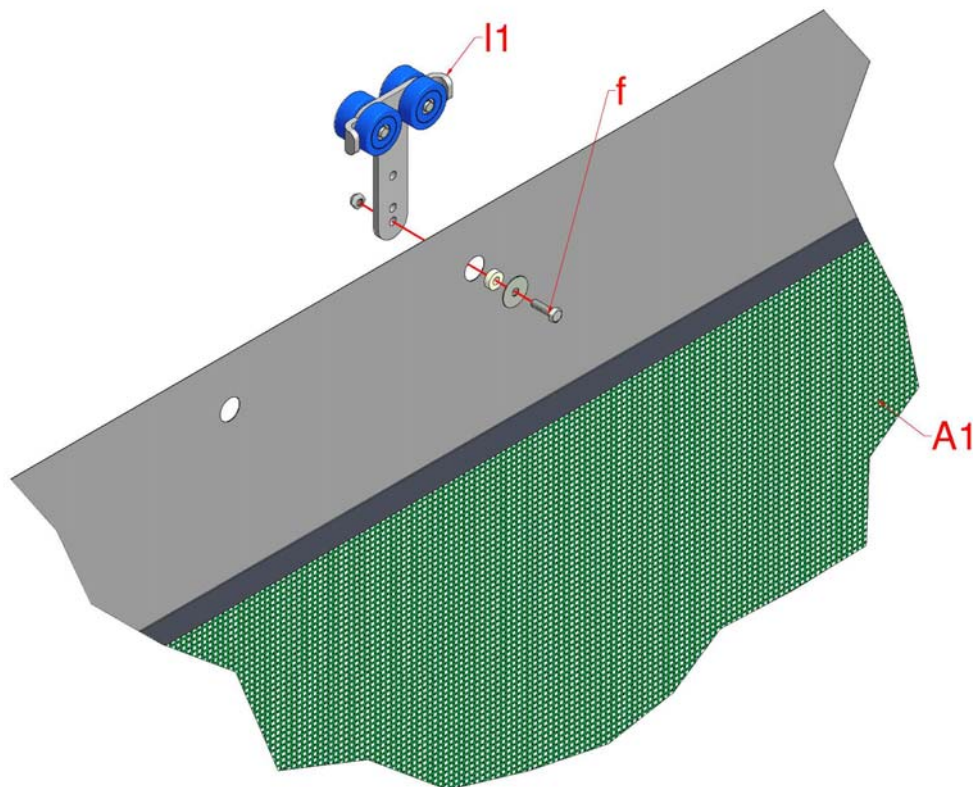

Figure 6, Fitting the Trolleys
6. Attach the four wheel trolleys (I1) to the screen by bolting the eyelet onto the bottom hole of the trolley using the M6x20 setscrew, 15mm diameter spacer and large washers (f), Figure 6..